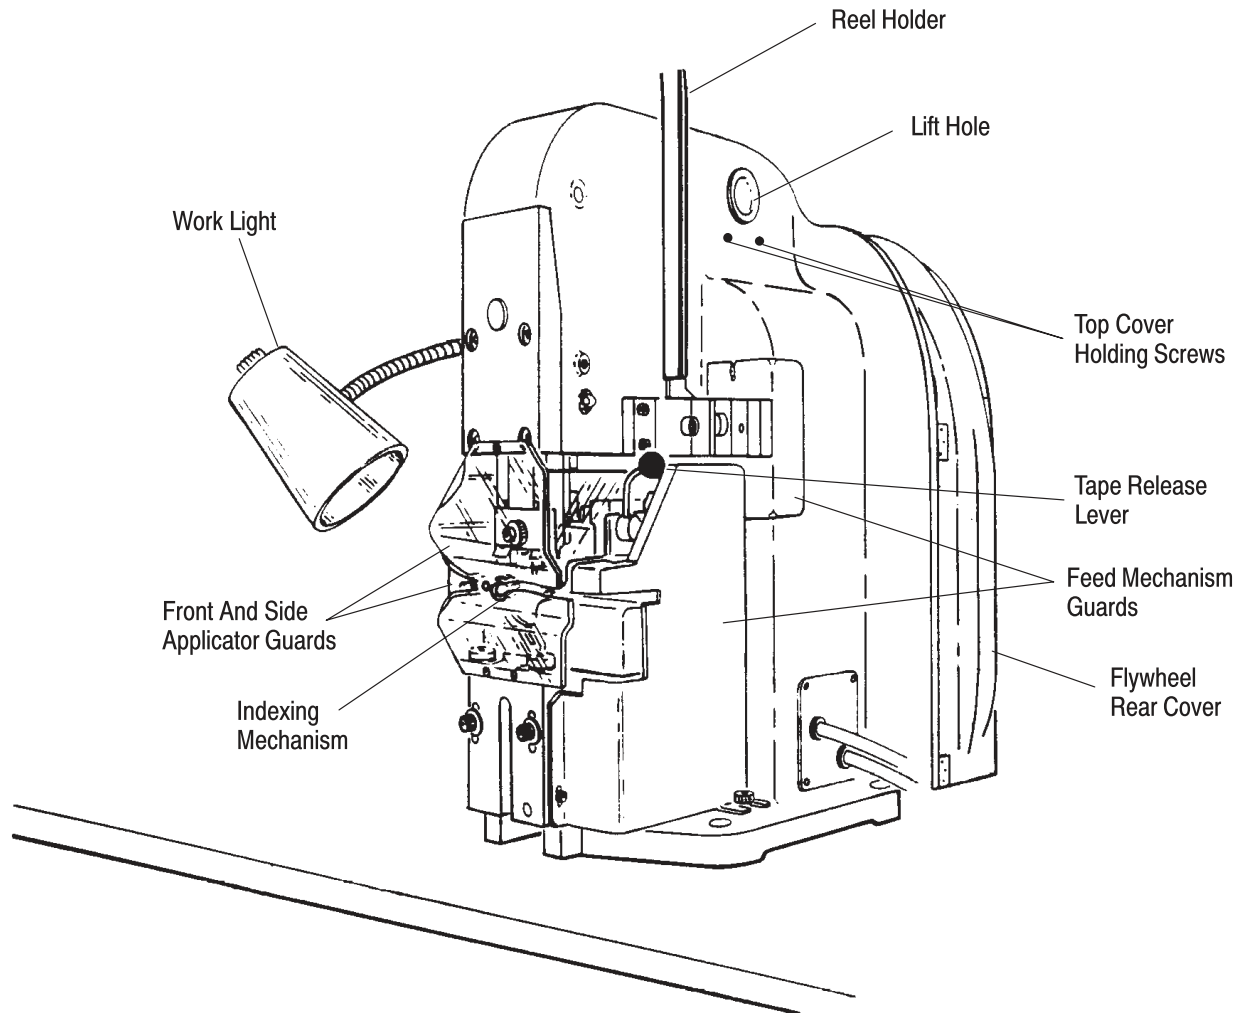

Figure 4
2.1. Physical Description (Figure 4)